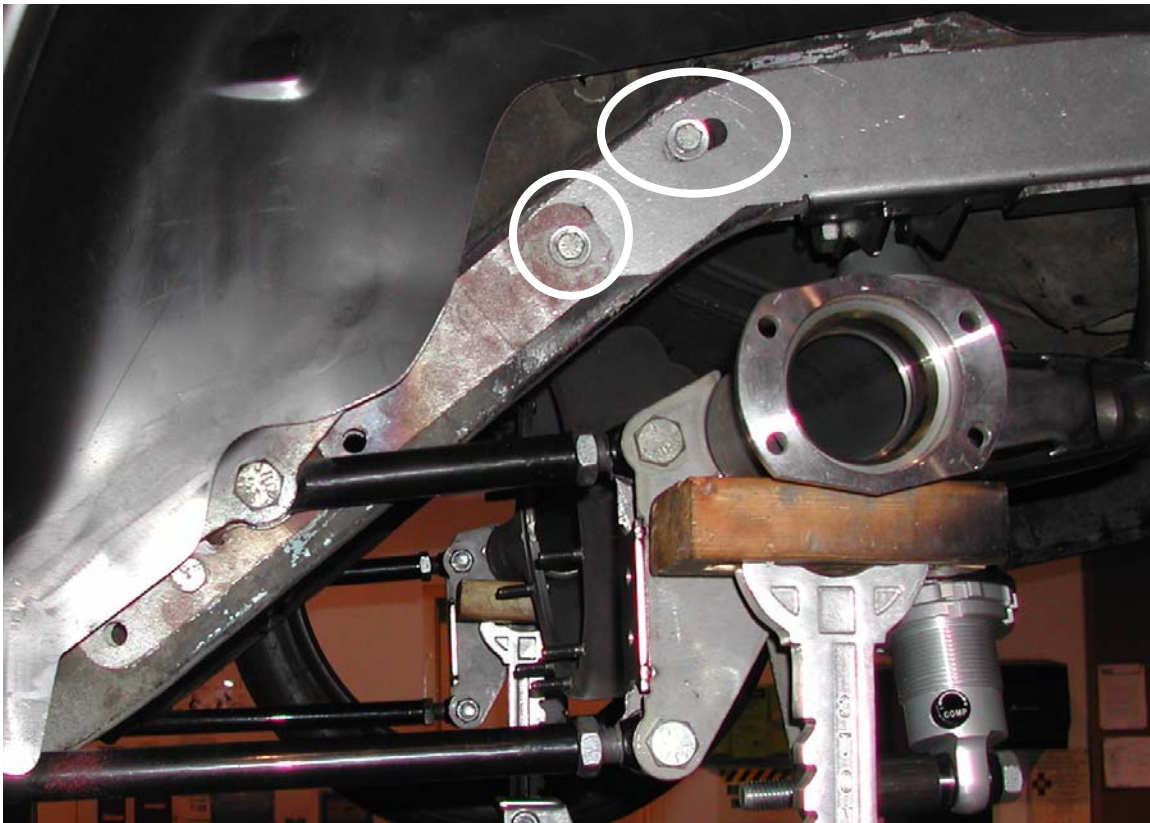

Figure 1. Driver side frame rail brackets, note bolt location in front of slots (circled)
- 3) Install the top saddles up onto the frame rails under the floor, see Figure 1. The saddles locate using the holes from the bump stop brackets. The brackets are slotted – On the driver's side, the bolts should be at the front of the slots, on the passenger side the bolts should be at the top of the slots. The saddles are located 18-3/4" from the back of the saddle brackets to the center of the rear shackle hole. Note: If you have a 1967, there are no holes on the side of the frame rail, so use the dimensions above to locate the brackets. The bolts should still be at the front of both slots on the driver side and the back of both slots on the passenger side. Position it there and bolt in place, including the bump stop brackets. The U-channel must be firmly seated against the bottom of the sub-frame rail. Drill the 1/2" dia. holes through the factory frame rails using the cross-member end plates as templates and bolt securely in place.
- 4) Install the upper link brackets next. They are located using the front holes on the ends of the top cross-member plates on the front factory frame rails. Drill through the floor and using the backing plates inside the car, under the seat, sandwich the floor pan and bolt in place. Then drill 1/2" holes through the factory frame rails and bolt the sides of the front mounts using the reinforcement plates in the inner side of the rails, see Figure 1. The upper links may be installed now, with the adjusters on the rear (axle side).